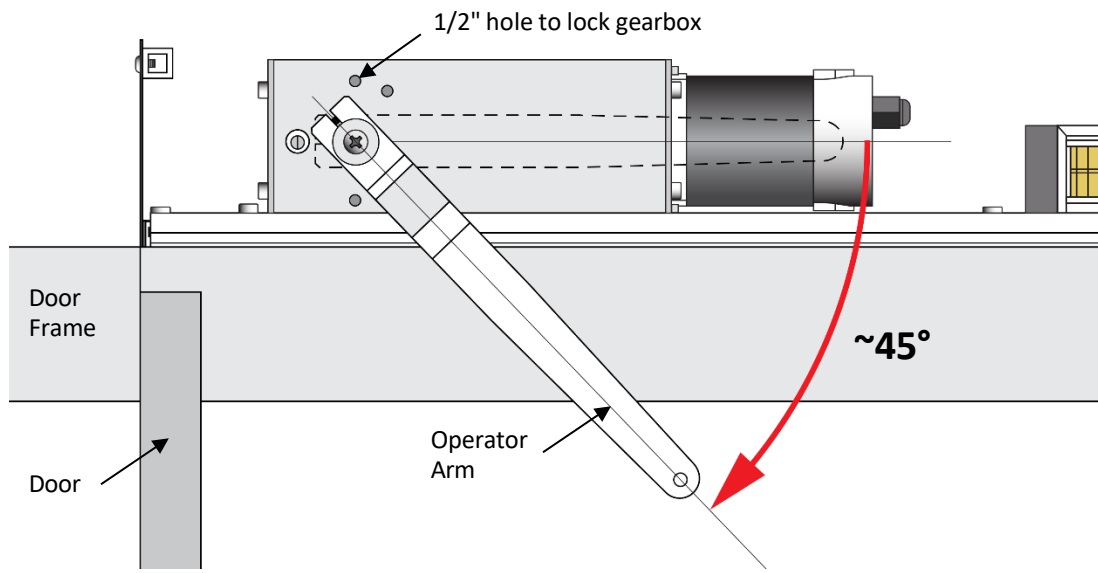

Figure 4-8 Push Arm Positioning
- Attach or re-adjust the push arm to be approximately 45° from parallel to the door frame as shown in Figure 4-8. Lock position using 3/16 socket screw included.